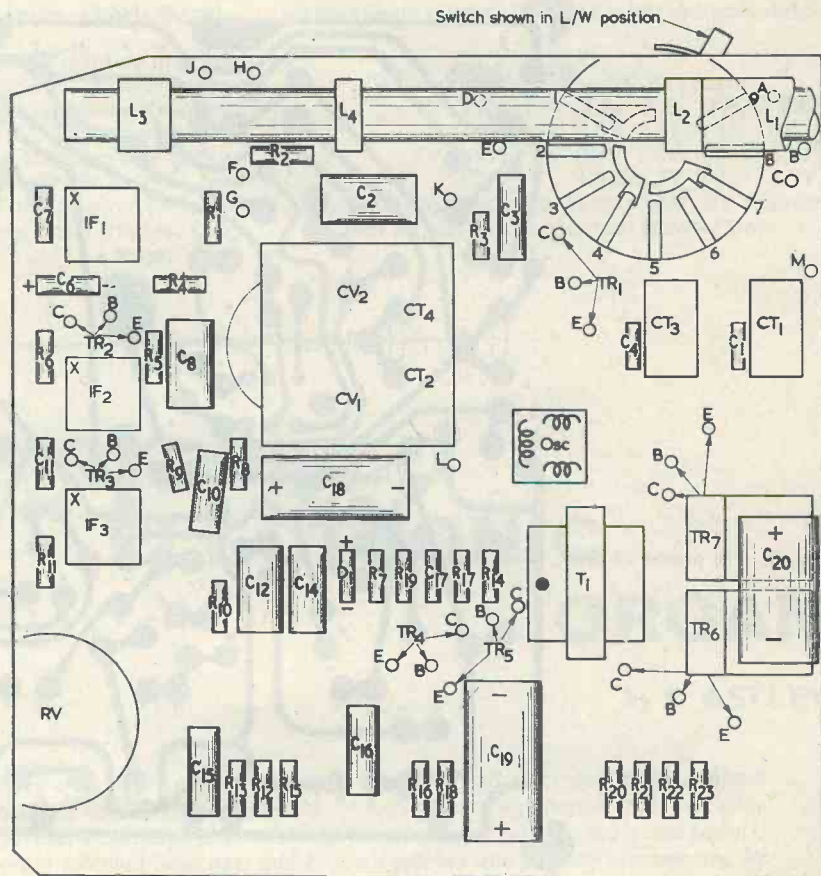

Fig. 2. Showing the layout of the components on the printed circuit board
The wafer can then be passed over the shaft and soldered into position. The volume control can be soldered into position as shown in Fig. 2. Tag 3 of the wavechange switch should be left unsoldered.
9. The aerial rod should now be mounted in its brackets and the coils fitted as shown in Fig. 2. L1 and L2 are fitted together; L3 has three tags, and L4 is a single pile wound coil with two connections. Connect these coils as follows: L1 start to point "F", finish to point "A". L2 start to point "F", finish to point "C". (L1 and L2 start together. L2 is the shorter of the two coils and ends after approximately six turns. L1 ends at the extreme end of the former.) L3, tag 1 to point "G", tag 2 to point "K", tag 3 to point "J". (With the tags facing the constructor, L3 tags are numbered clockwise from the gap—1, 2 and 3.) L4 start to point "H", finish to point "D". (The start of L4 is that of the inner wire and the end is the outer wire.)